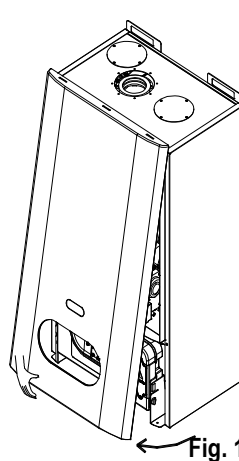
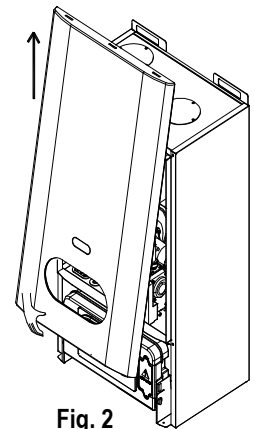

Fig. 1
Fig. 2
- Grasp the lower part of the panel and pull it outwards (see fig. 1) and then up (see fig. 2).
- Remove the front panel (see fig. 1 and fig. 2).